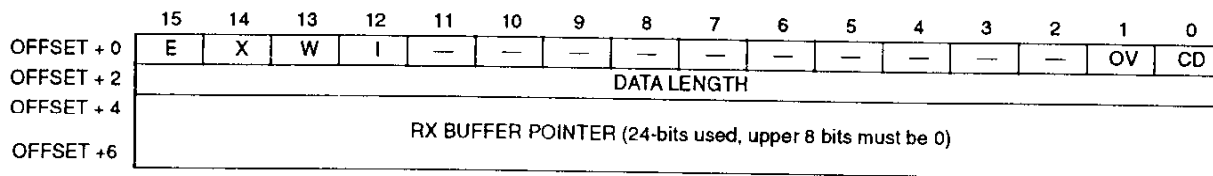

Figure 4-8. Transparent Receive Buffer Descriptor
4.3.12.3 TRANSPARENT RECEIVE BUFFER DESCRIPTOR (RXBD). The CP reports information about the received data for each buffer using BD. The RxBD is shown in Figure 4-8.